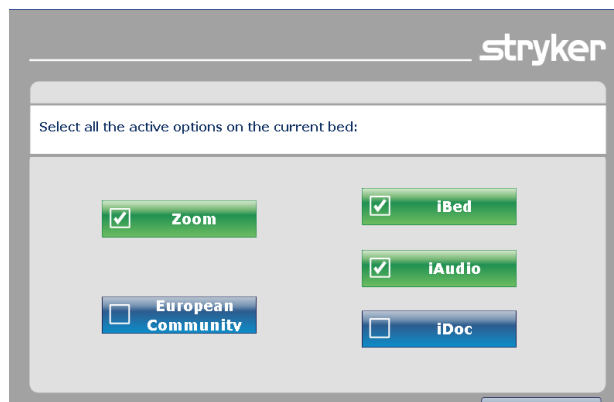

Figure 30: Bed Options screen
1. Press and hold the **HOB 30** button and the **BRAKE** button at the same time for 25 seconds then release both buttons. The Bed Options screen (Figure 30) will be displayed.
**Note:** In Figure 30, the options selected are Zoom, iBed and iAudio. All of the options selected will turn green.